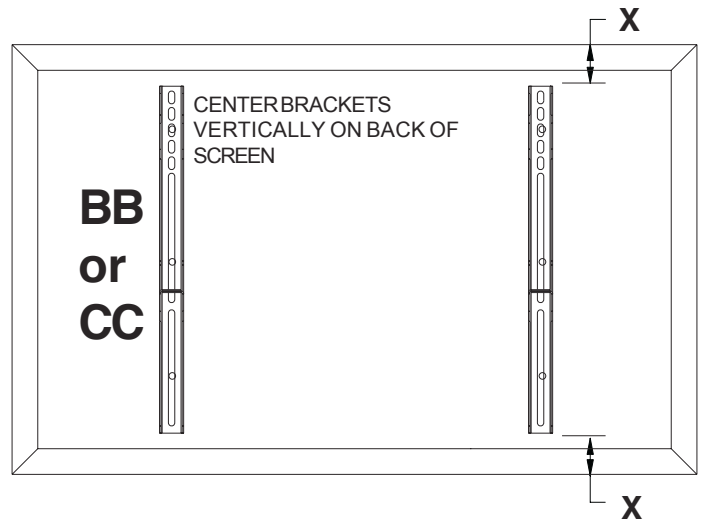
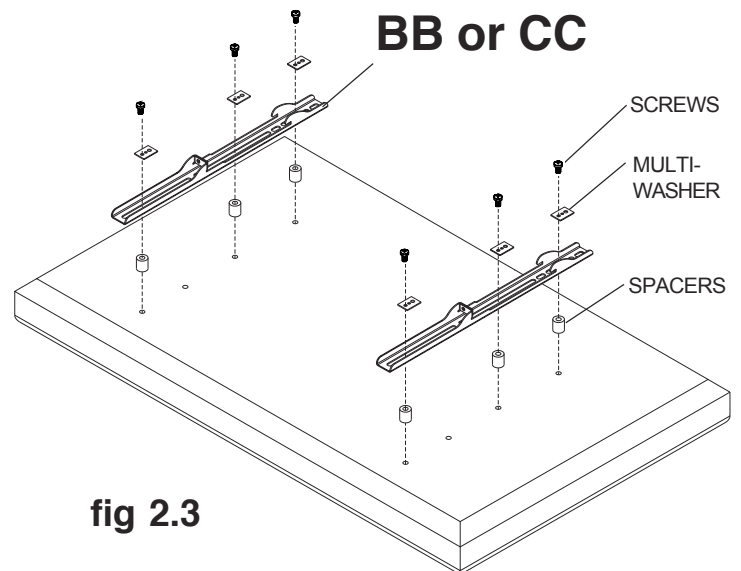

fig 2.1
fig 2.3
- 2** To prevent scratching the screen, set a cloth on a flat, level surface that will support the weight of the screen. Place screen face side down. If screen has knobs on the back, remove them to allow the adapter brackets to be attached. Place adapter brackets (**BB or CC**) on back of screen, align to holes, and center on back of screen as shown in figure 2.1. Attach the adapter brackets to the back of the screen using the appropriate combination of screws, multi-washers, and spacers as shown in figure 2.3.